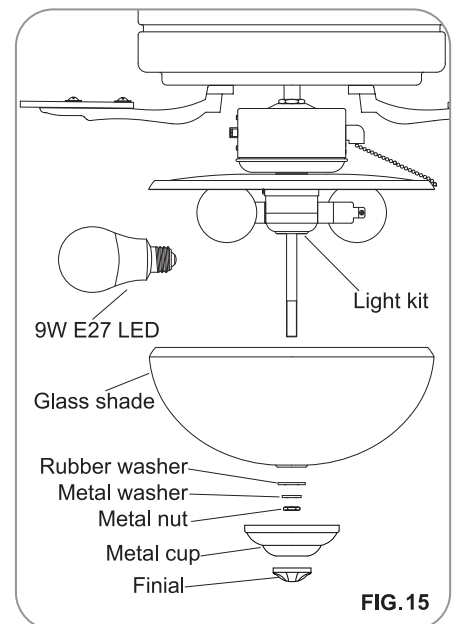

FIG. 15
Step 6: Remove the rubber washer, metal washer, metal nut, and finial from the light kit. Place glass shade over the light kit stem, secure with the rubber washer, metal washer, metal nut, metal cap and finial. Do not overtighten. (Fig.15)